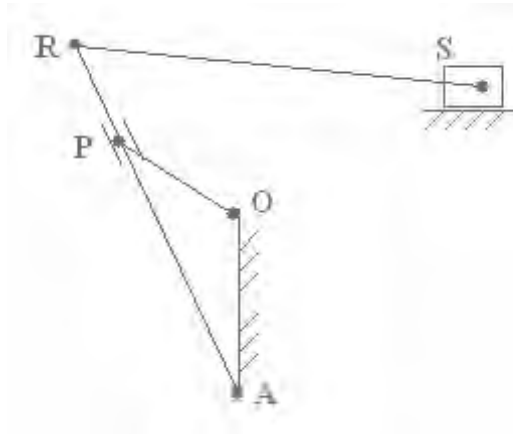

Figure 4
4. The crank OP of a crank and slotted lever mechanism shown in figure 4. rotates at 200 rpm in the counter-clockwise direction. Various lengths of the links are OP = 90 mm, OA = 300 mm, AR = 480 mm and RS = 330mm. The slider moves along an axis perpendicular to AO and is 120 mm from O. Determine the velocity of the slider when the angle AOP is  $135^\circ$  and also the maximum velocity of the slider.